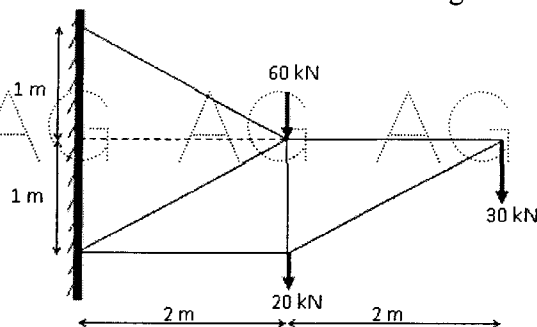

Figure: 6
4. Analyse the plane cantilever truss loaded as shown in figure 6. [10]